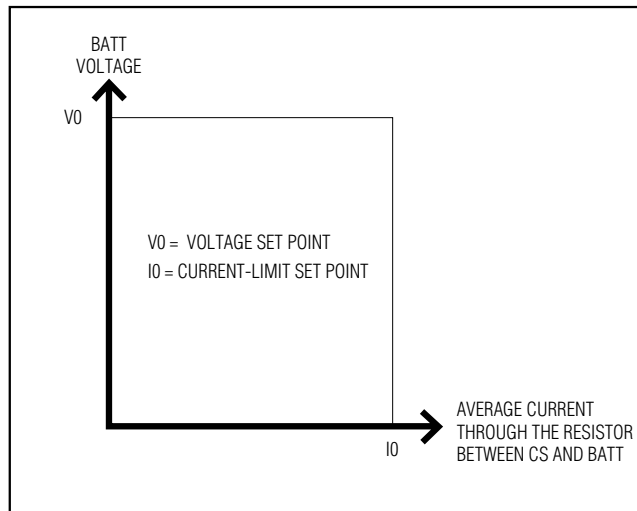

Figure 5. Output V-I Characteristic
The MAX1667 contains both a voltage-regulation loop and a current-regulation loop. Both loops operate independently of each other. The voltage-regulation loop monitors BATT to ensure that its voltage never exceeds the voltage set point (VO). The current-regulation loop monitors current delivered to BATT to ensure that it never exceeds the current-limit set point (IO). The current-regulation loop is in control as long as BATT voltage is below VO. When BATT voltage reaches VO, the current loop no longer regulates, and the voltage-regulation loop takes over. Figure 5 shows the V-I characteristic at the BATT pin.